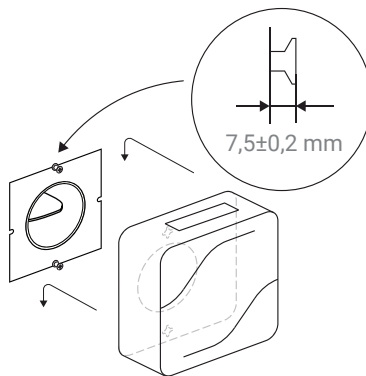

Figure 6.8. Device hanging
9. Make sure that the distance by which the screws heads protrude out of the wall is in accordance with the dimensions shown in Figure 6.8. Lay the power cord on the appropriate side along the cable channels on the rear part of the device. Hang the device onto screws using the mounting lugs on the rear panel of the device. Push top down on the device casing for reliable attachment.